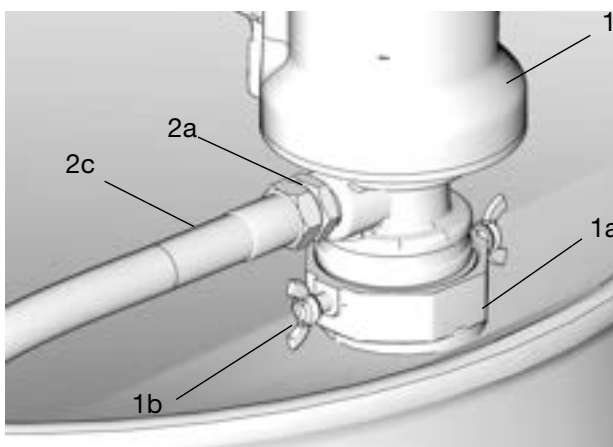

FIG. 23
1. Thread pump bung adapter (1a) into hole in drum cover (16) and hand tighten securely (FIG. 23).
2. Insert pump (1) into bung adapter (1a) and drum.
3. Secure the pump in place by tightening the gasket screws (1b) (FIG. 23).